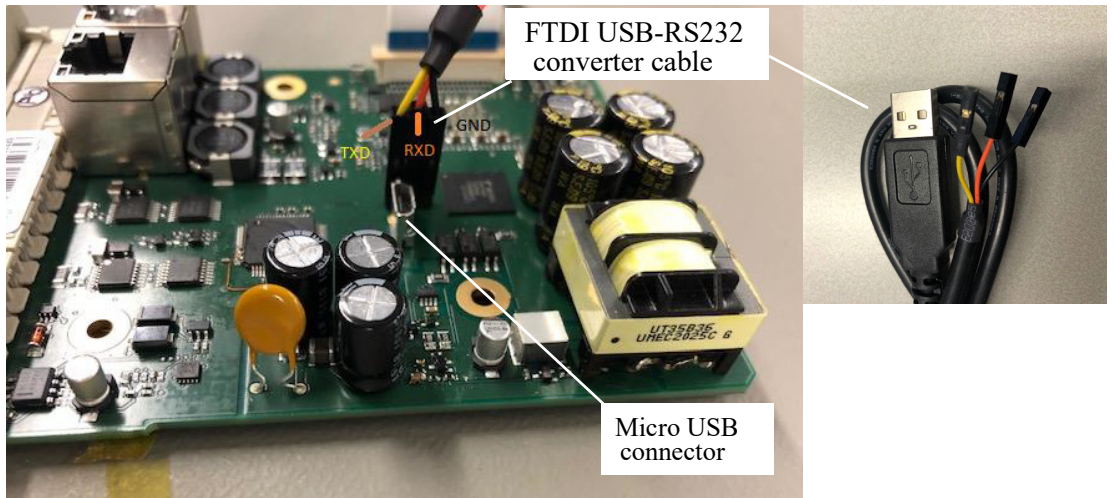

Figure 5-1. Serial port and micro USB connector
3. Connect the PFEA122 micro-USB connector to the PC using USB cable, see Figure 5-1.